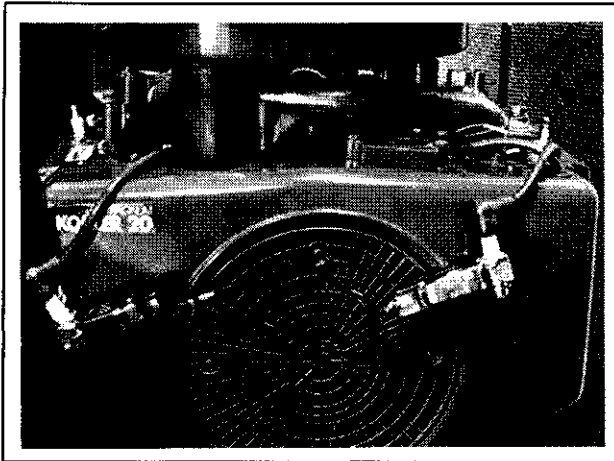

Figure 8-2. Ignition System Tester.
3. Check ignition module using test plugs (refer to the "Special Tools" section and Figure 8-2). a. Remove the high-tension leads from the engine spark plugs, and connect them to the test plugs. NOTE: To maintain engine speeds normally obtained during cranking, do not remove the engine spark plugs. b. Make sure the engine ignition switch (kill switch) and/or key switch are in the "run" position. c. Crank the engine and observe the test plugs. Visible and audible sparks should be produced.	If visible and audible sparks ARE produced, the ignition module is OK. If visible and audible sparks ARE NOT produced: a. Make sure engine ignition switch and/or key switch are in the "run" position. b. Check wires and terminals of ignition module and other components for accidental grounding and/or damaged insulation. c. If wires and terminals are OK, the ignition module is probably faulty and should be replaced. Test module further using an ohmmeter (Test 4).